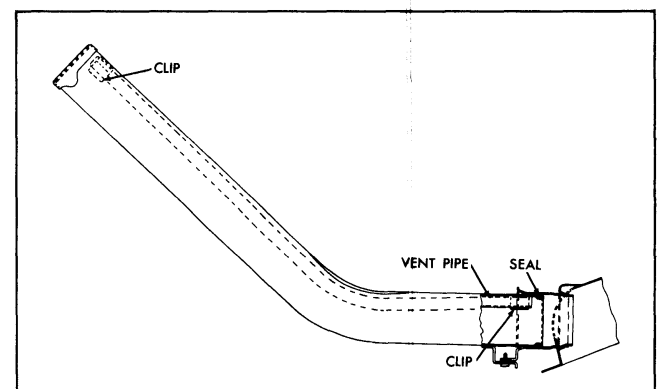

Fig. 8-9 Filler Pipe Installed in Tank
3. Remove seal from filler pipe recess (Fig. 8-9) using a screw driver or similar tool.
2. Place new seal in recess of filler pipe (Fig. 8-9) and position in tank.